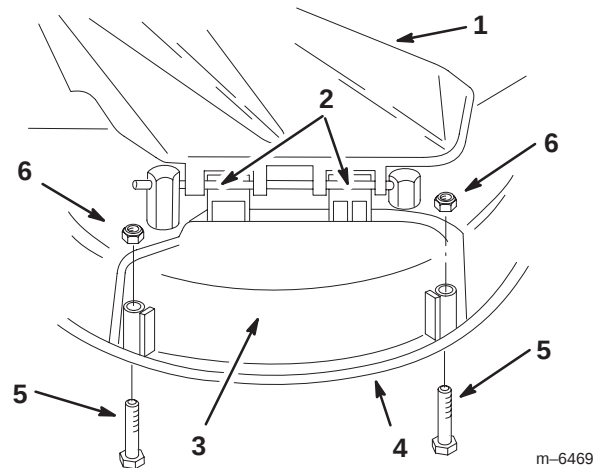

Figure 18
2. Lift the grass deflector and slide the tabs on top of the discharge cover under the grass deflector retaining rod. Rotate the discharge cover down over the opening, and onto the lower lip of the mower (Fig. 18).
3. Secure the discharge cover to the lower lip of the mower with bolts and nuts (Fig. 18).
2. Remove the nuts and bolts that secure the discharge cover to the mower (Fig. 18).